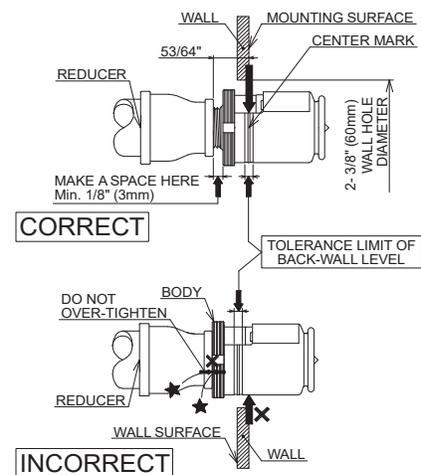

Figure 3: Installation
Step 2: Install the sprinkler fitting so that the distance from the face of the fitting to the mounting surface will be nominally 53/64 inch (21.0mm) as shown in Figure 3.
Step 5: Use the “tolerance limit of back-wall level” indicator on the Protective Cap to check for proper installation depth (Ref. Figure 3) Relocate the sprinkler fitting as necessary. If desired the Protective Cap may also be used to locate the center of the clearance hole by gently pushing the back wall material against the center point of the Cap.